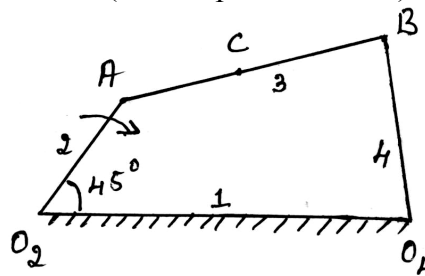

Fig Q3(b)
- b. The Fig Q3(b) shows a four bar mechanism crank O_2A rotates at 200rpm and an angular acceleration of 150 rad/sec^2 at an instant when the crank makes an angle of 45° to the horizontal. Find the acceleration of points B and C, and angular velocities and angular acceleration of link 3 and 4. (use Graphical method)